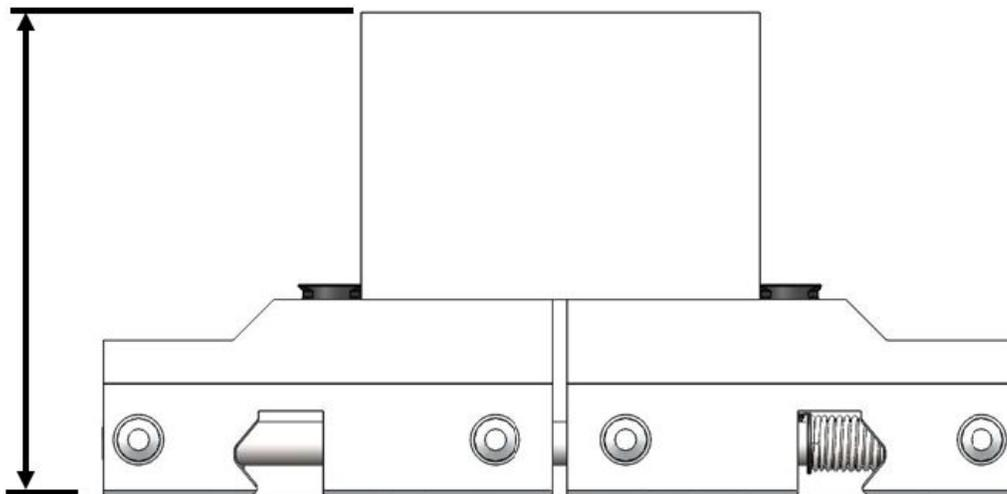

FIGURE 3. INFEEED HEIGHT IS FIRST OPERATION JAW + RAW MATERIAL + SHELF LOCATOR THICKNESS
- Height** - First operation Jaw + Raw Material + Shelf Locator thickness *Reference Figure 3 & Table 3 for Standard and High Entry values. The Height value entered here needs to be less than the entry height selected.